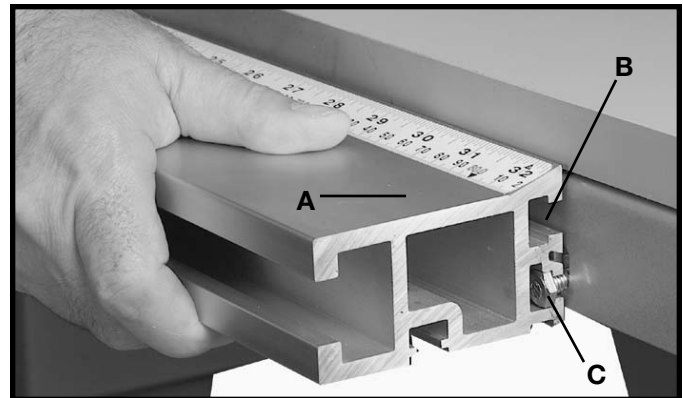

Fig. 61
4. From either end, slide the T-Slot guide rail (A) Fig. 61, onto the hex head of the bolts partially inserted in step 2 and 3 above. **Note:** The bolt heads on the saw table slide into the upper t-slot (B) Fig. 61 and the bolt head on the extension table slide into the lower t-slot (C) Fig. 61.